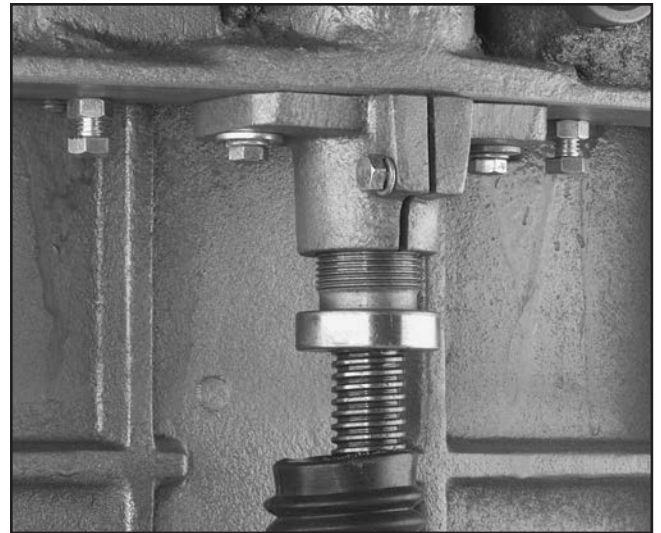

Figure 12. Column adjustment flange underneath table.
5. Pull the rubber sleeve down to expose the adjustment collar shown in **Figure 12**. Turning this collar counter-clockwise will lower the left side of the table; turning this collar clockwise will raise the left side of the table.